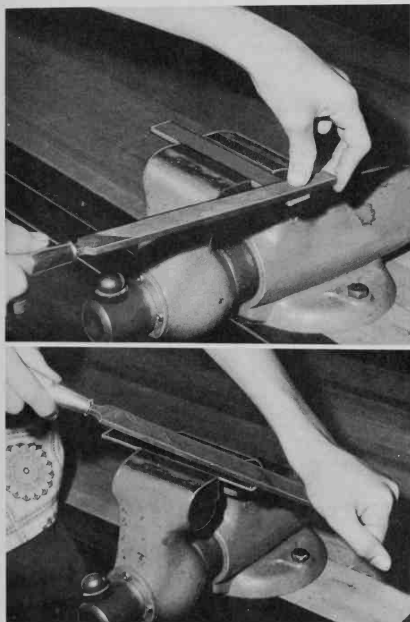

Fig. 4-33. Above. The proper way to hold a file for light filing. Fig. 4-34. Below. The proper way to hold a file for heavy filing.
2. Select the correct file for the job. For light and accurate filing, grasp the handle with one hand, allowing its end to fit into and up against the fleshy part of the palm below the joint of the little finger, with the thumb lying parallel along the top of the handle and the fingers pointing upward. Grasp the point of the file by the thumb and the first two fingers of the other hand, Fig. 4-33. For heavy work grasp the handle in the same manner just described. Place the palm of the hand on top of the point of the file with the fingers curled under, Fig. 4-34.